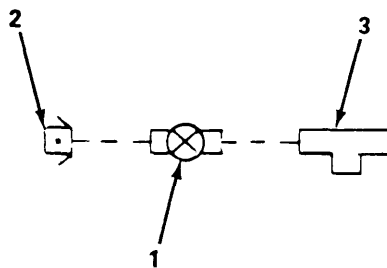

Figure 4-4. Butterfly Valve Removal/Installation.
- (b) Insert butterfly (20) into valve body (10) and position it so that shaft (12) can be inserted into pivot point on butterfly (20). Install shaft (12) and secure in housing with pin (11).
- (c) Assemble O-ring (9) in valve body (10).
- (d) Assemble metallic washer (8) and non-metallic washer (7) and disc (6) on shaft (4).
- (e) Insert shaft (4) and assembled washers and disc into valve body (10) to engage butterfly (20).
- (f) Secure disc (6) to valve body (10) with two screws (5).
- (g) Install cap (3) and handle (2) On shaft (4). Ensure handle will operate in Position installed and secure handle with setscrew (1).
- (h) Install new gasket (16) and dust plug (15) into female coupling half (14).
- (i) Apply sealing compound to threads and screw female coupling half (14) into inlet side of valve body (10).
- (j) Install new gasket (19) in dust cap (18) and secure on male coupling half (17).
- (k) Apply sealing compound to threads and screw male coupling half (17) into outlet side of valve body (10).
- b. Replace (figure 4-4.)
- (1) Removal.
- (b) Remove butterfly valve assembly (1) from suction hose assembly (2) and tee assembly (3).